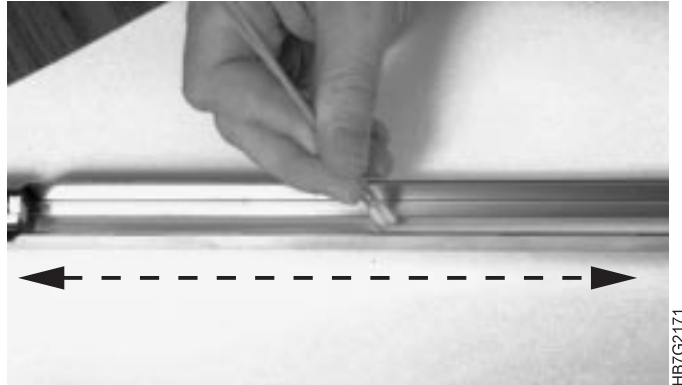

Figure 255. Cleaning a Scorotron Wire
**15** Clean each scorotron wire by placing it between two cotton swabs, moistened with soapy water, held in one hand. Move the swabs back and forth along the scorotron wire, as shown in Figure 255. Repeat with dry cotton swabs.